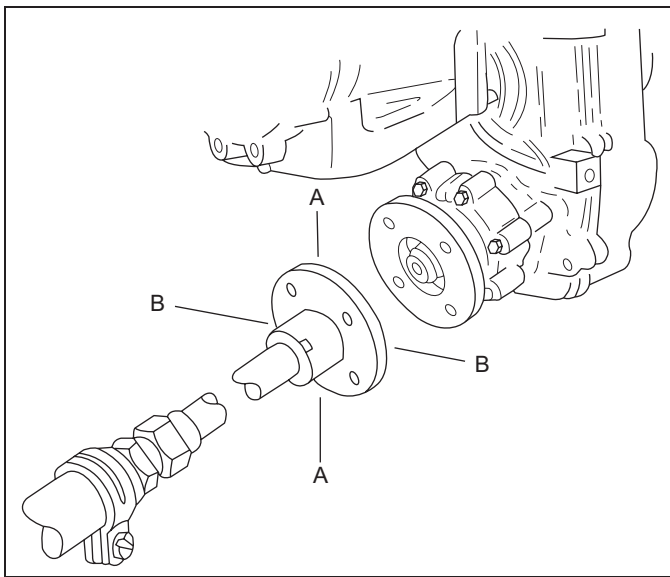

Figure 11-25 Centering Prop Shaft
2. Center the propeller shaft in the shaft log as follows: (Figure 11-25)